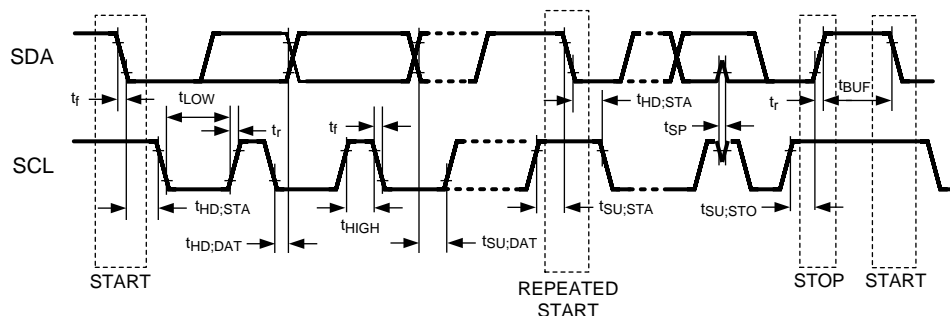

Figure 5. Serial Control Bus Timing
**Bi-Directional Control Bus AC Timing Specifications (SCL, SDA) - I2C Compliant (Figure 5)**
### Bi-Directional Control Bus AC Timing Specifications (SCL, SDA) - I2C Compliant (Figure 5) (continued)